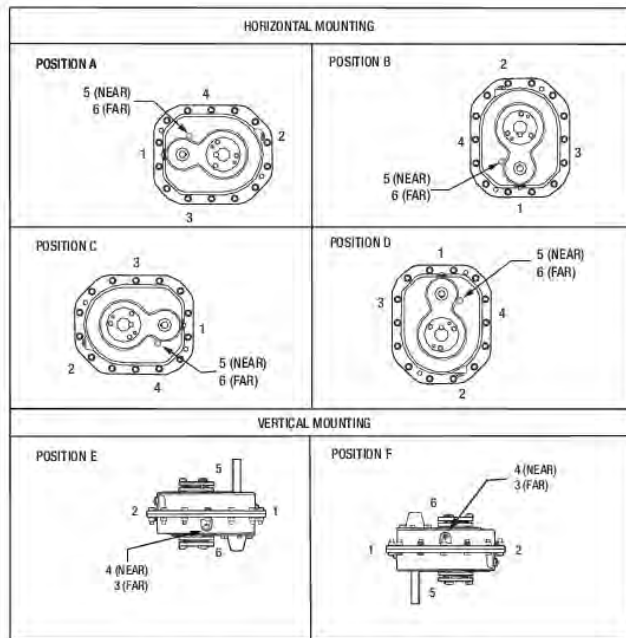

Figure 1 - Mounting Positions
2. Determine the running positions of the reducer. (See Figure 1). Note that the reducer is supplied with 6 plugs; 4 around the sides for horizontal installations and 1 on each face for vertical installations. These plugs must be arranged relative to the running positions as follows:
Vertical Installations—Install the filter/ventilation plug in the hole provided in the upper face of the reducer housing as installed. If space is restricted on the upper face, install the vent in the highest hole on the side of the reducer per Figure 1. Install a plug in the hole in the bottom face of the reducer. Do not use this hole for the magnetic drain plug. Of the remaining holes on the sides of the reducer, use the plug in the upper housing half for the minimum oil level plug.
* Below 15 RPM output speed, oil level must be adjusted to reach the highest oil level plug. If reducer position is to vary from those shown in Figure 1, either more or less oil may be required. Consult Mechanical Power Transmission Support in Greenville, SC.
The running position of the reducer in a horizontal application is not limited to the four positions shown in Figure 1. However, if running position is over 20° in position "B" & "D" or 5° in position "A" & "C", either way from sketches, the oil level plug cannot be used safely to check the oil level, unless during the checking, the torque arm is disconnected and the reducer is swung to within 5° for position "A" & "C" or 20° for position "B" & "D" of the positions shown in Figure 1. Because of the many possible positions of the reducer, it may be necessary or desirable to make special adaptations using the lubrication filling holes furnished along with other standard pipe fittings, stand pipes and oil level gauges as required.